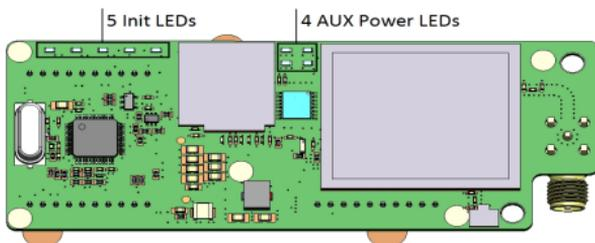

Figure 17: Cellular plug-in LEDs
8. Check that all the cellular plug-in LEDs are lit (see *Figure 17*). If not, refer to *Troubleshooting* on page 27.